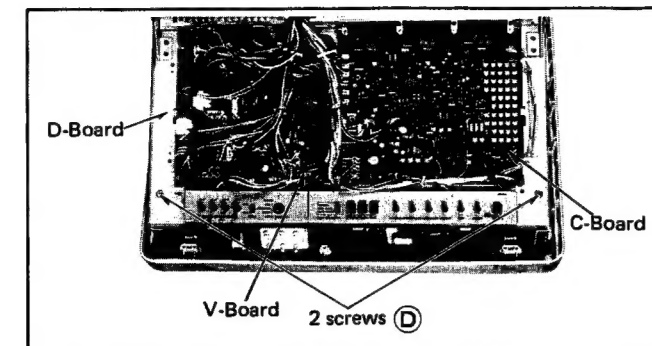

Fig. 5
- Loosen 2 screws (D) to counterclockwise by 90° in fig. 5.